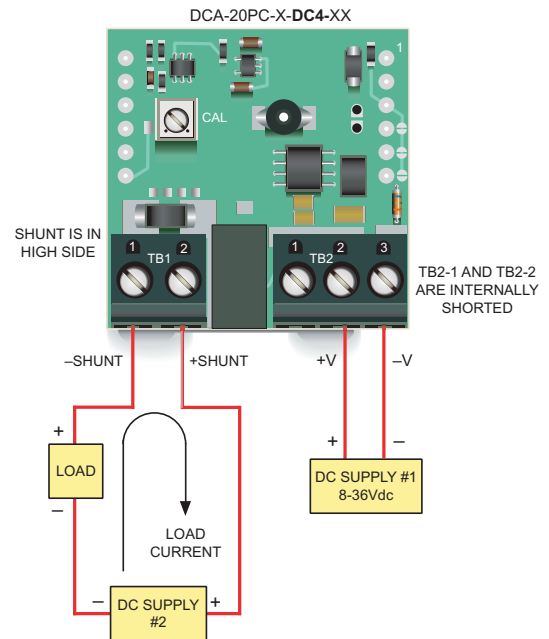

Figure 5. Using “-DC4” Isolated-Power Models to Maintain Isolation Between Two Power Supplies
**High-side shunts:** ‘-DC4’ 8-36Vdc isolated-power models must be used in all applications that employ a single power supply to power both the load and the ammeter and the shunt is located in the high side (positive terminal) of the power supply. Figures 4 and 5 depict typical high-side shunt connections. As shown in Figure 5, ‘-DC4’ isolated-power models can also be used in applications where one supply powers the ammeter and a second supply powers the load, but the two supply-grounds cannot be tied together. ‘-DC4’ models include a built-in dc/dc converter to provide a minimum 500Vdc isolation between the shunt (TB1) and power supply (TB2) inputs.